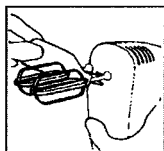

Figure 4
4. Align the grips of the Spatula parallel with the Beater Stems. (See Figure 4.)